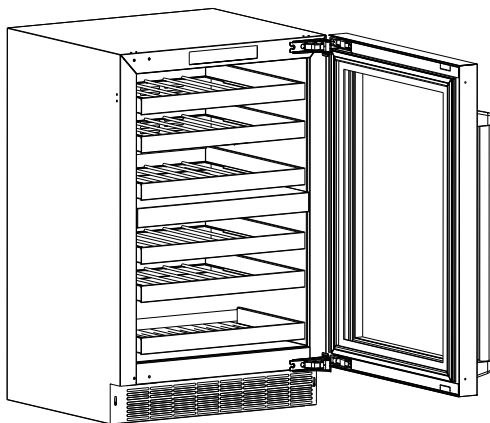
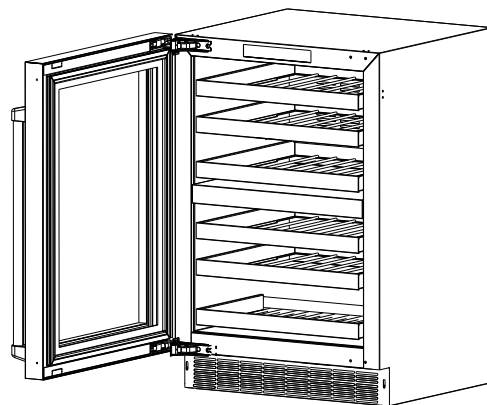

Figure 1
Figure 2
This appliance has the capability of the doors opening from either the left or right side. The unit is delivered to you with the doors opening from the left side (Figure 1). Should you desire to reverse the opening direction (Figure 2), follow the instructions below. **NOTE:** A second person is recommended with this task due to the weight of the door.
- Figure 1 is a side view of the unit, showing how the panel (in gray) fits over the panel-ready door. A panel depth of no more than  $\frac{3}{4}$ " (19 mm) is recommended.
- Figure 2 shows a front view of a custom panel; follow these precise specifications when cutting/fabricating the panel to perfectly align with the panel-ready door.